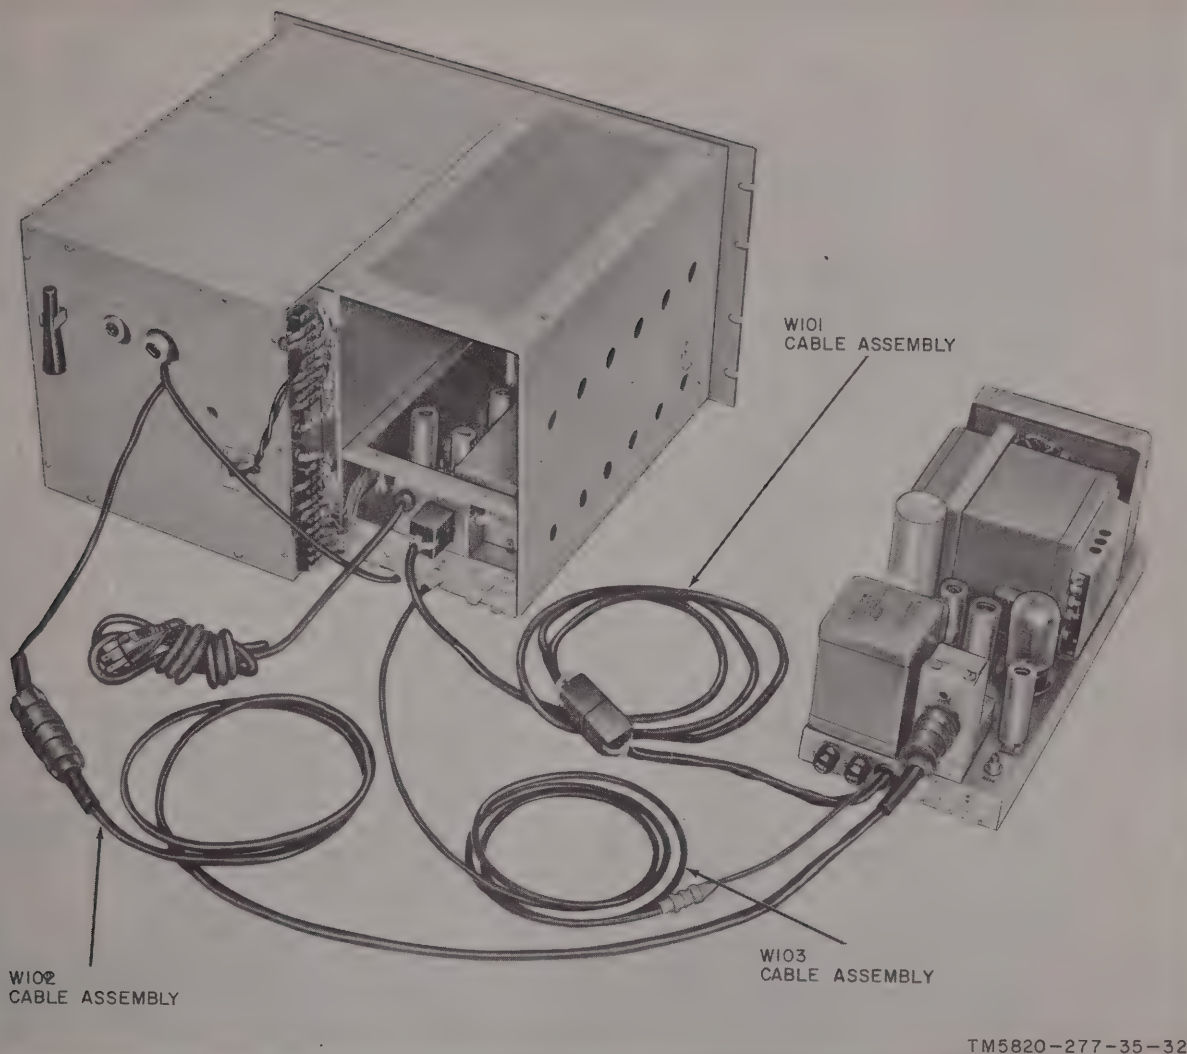

Figure 15. Extension cable connections.
b. During troubleshooting, it may be necessary to remove the power supply chassis from the variable frequency oscillator. To make voltage and performance tests with the power supply removed, connect extension cable assemblies W101, W102, and W103 between the power supply chassis and the other chassis (fig. 15 and para 24, TM 11-5820-277-12). If resistance checks or repair procedures on the power supply or rf multiplier chassis are necessary, and if procedures will involve 5 minutes or more, it may be possible to avoid a long warmup period by leaving the POWER switch on and removing the POWER fuse. The components on the two chassis can be handled safely while the ovens remain heated.